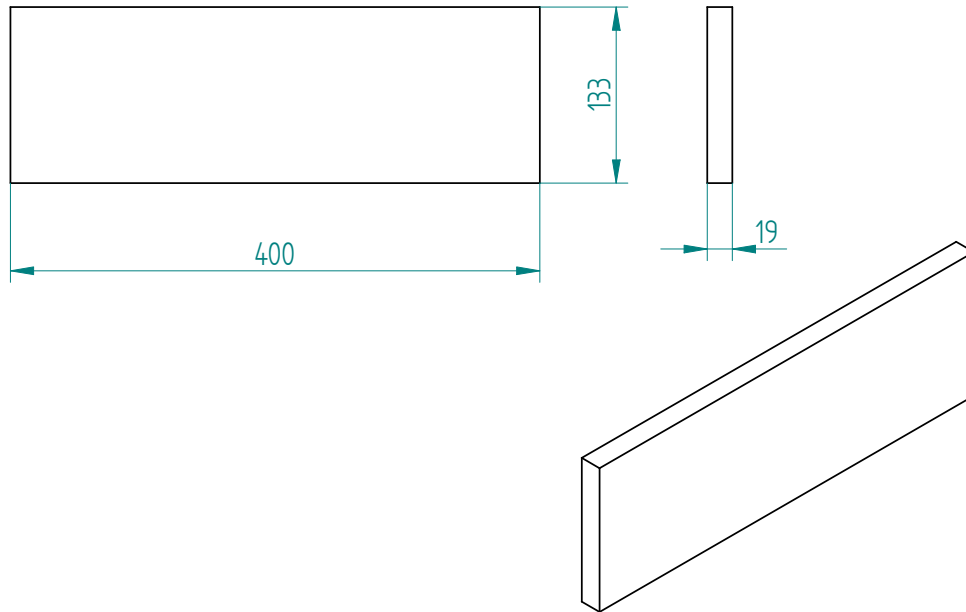

Figure 3.1: Shaped part : **base** for **perpendicular** tool
**Drawing** See figure 3.1, page 81